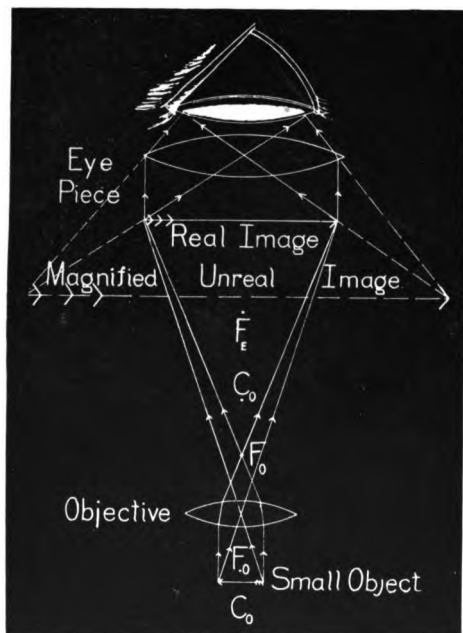

FIG. 113.—COMPOUND MICROSCOPE
**132. Compound Microscope.** While the telescope serves to produce magnified images of distant objects, the microscope (Fig. 113) serves to produce magnified images of near objects that are very small. In this case the object, which is placed between the principal focus and center of curvature of a short focus lens, forms an image that is larger, inverted and beyond the center of curvature. There is nothing to be gained by turning this image around, so the eyepiece is placed where it will magnify it, *i. e.*, so that the image falls between the eyepiece and its principal focus.